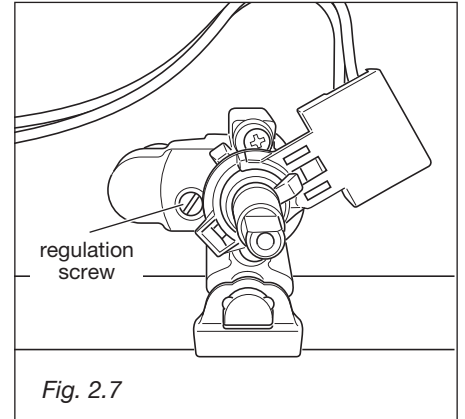

Fig. 2.7
- With a thin screwdriver turn the screw "**F**" until adjustment is correct (fig. 2.7).